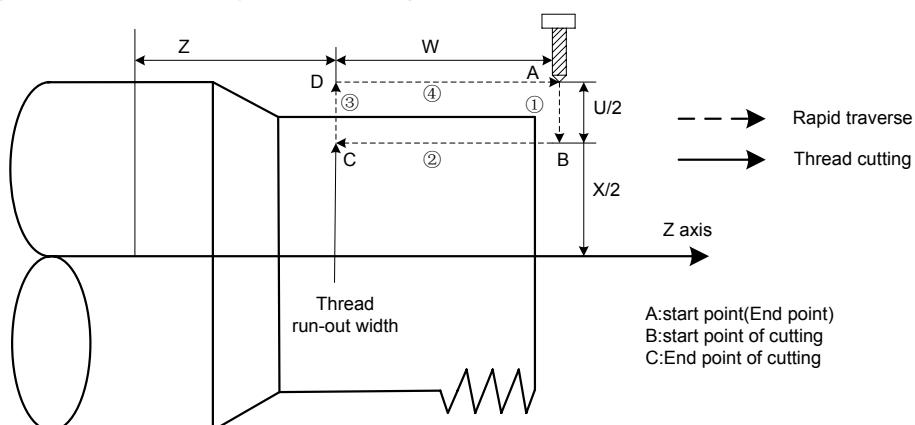
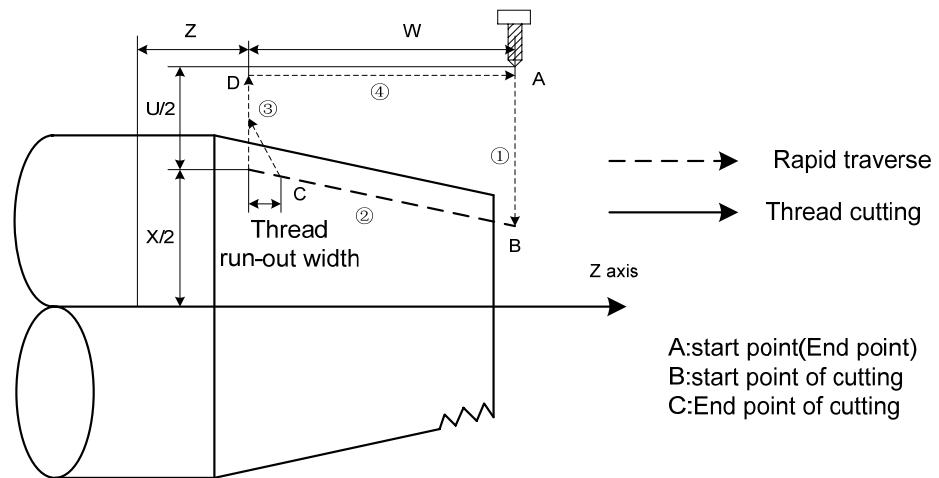

Fig. 2-60 Straight thread
Fig.2-61 Taper thread
with constant thread pitch. Thread run-out in G92: at the fixed distance from end point of thread cutting, Z executes thread interpolation and X retracts with exponential or linear acceleration, and X retracts at rapidly traverse speed after Z reaches to end point of cutting as Fig. 2-60 and Fig.2-61.
**Cycle process:** straight thread as Fig.2-60 and taper thread as Fig.2-61.
- ① X traverses from start point to cutting start point;
- ② Thread interpolates (linear interpolation) from the cutting start point to cutting end point;
- ③ X retracts the tool at the cutting feedrate (opposite direction to the above-mentioned ①), and return to the position which X absolute coordinate and the start point are the same;
- ④ Z rapidly traverses to return to the start point and the cycle is completed.